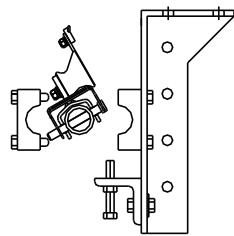
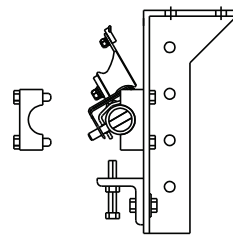
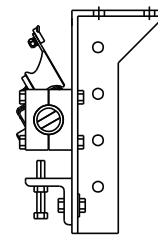

Fig. 4
Fig. 5
Fig. 6
Bolt the support tube clamp to the bracket using the tube clamp lock bolts as shown in Fig. 4 Position the support tube into the fixed half of the support tube clamp as shown in Fig. 5 Bolt the top half of the support tube clamp into place and make sure that the blade tip is perpendicular to the belt as shown in Fig. 6
- 2.) Remove the clamp cap as shown in Fig. 5 to remove the tube from the mounting brackets.